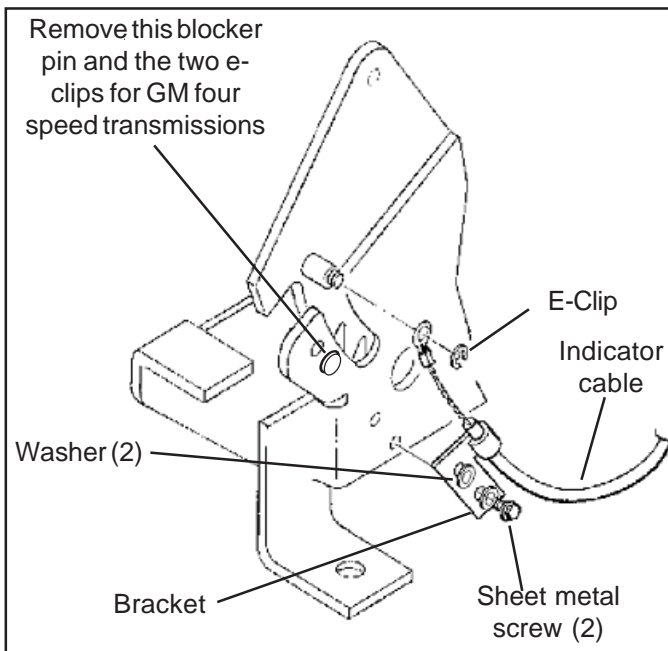

Figure 3
**STEP 7.** Just before the final installation of the shifter in the vehicle, attach the indicator cable to the side of the shifter as shown in **Figure 3.** The indicator cable bracket is secured to the shifter mechanism with two #6 x 3/4" sheet metal screws and two #6 washers, the eyelet on the end of the indicator cable is secured to the cable pin by a supplied small e-clip.